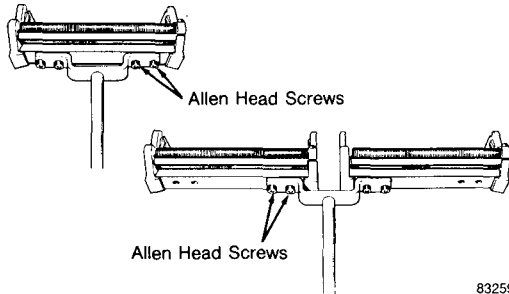

Fig. 10—Pedestal Set-up.
6.01 A single splice head or two splice heads may be mounted on one pedestal. See Figure 10.